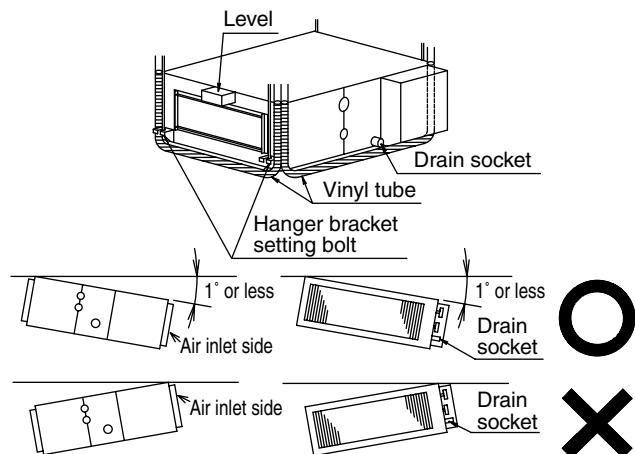

Fig. 5
- (3) Make sure the unit is level.
- (Refer to Fig. 5)